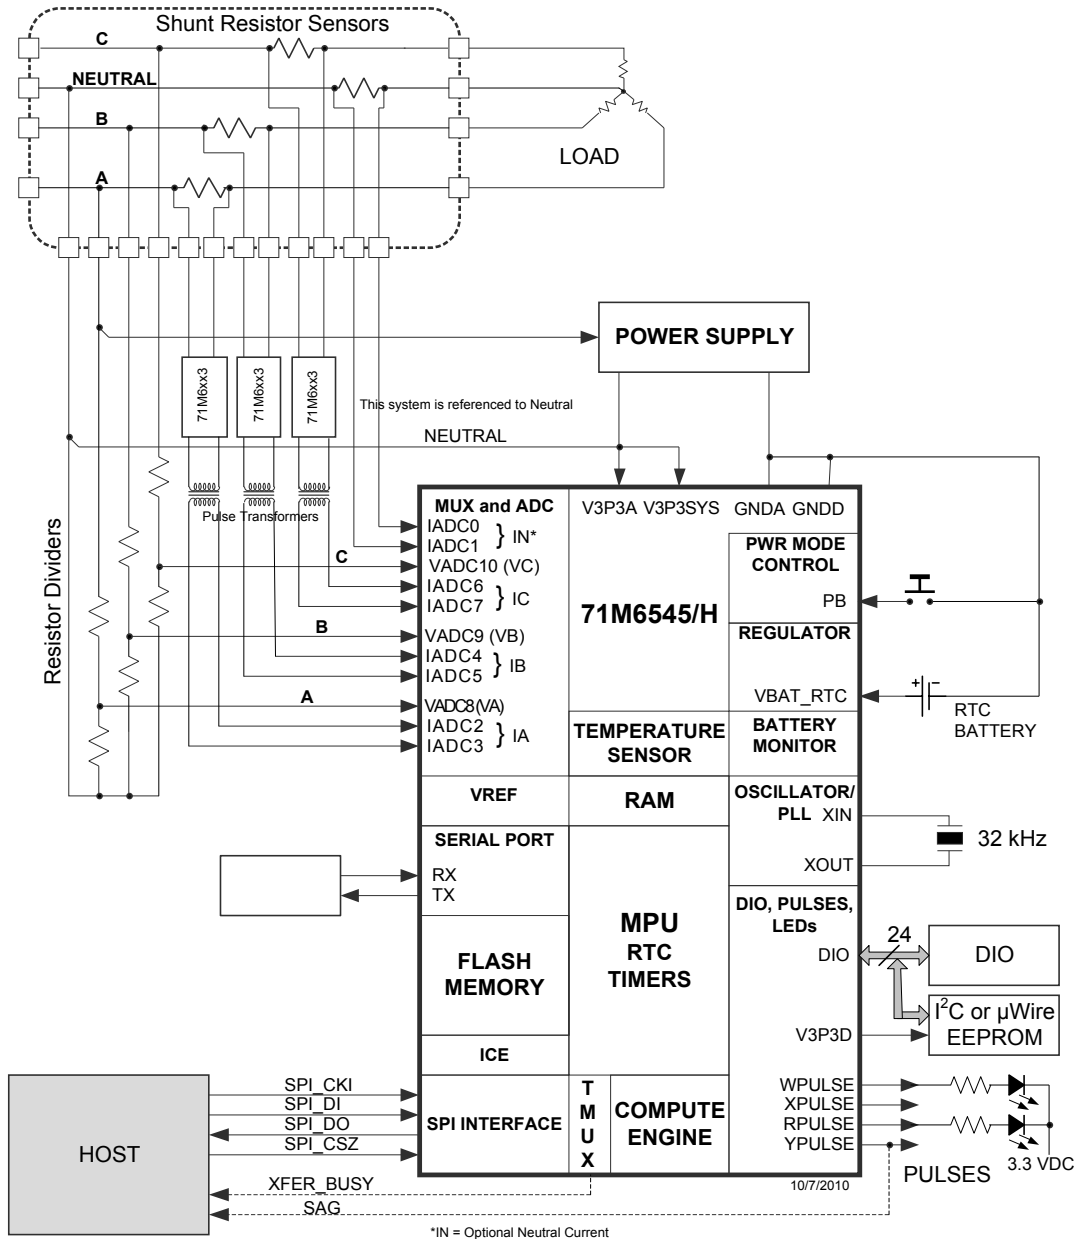

Figure 27: System Using Three-Remotes and One-Local (Neutral) Sensor
Figure 27 shows a typical connection for current shunt sensors; using the 71M6xx3 (poly-phase) isolated sensors. Note that one shunt current sensor is connected without isolation, which is the neutral current sensor in this example (connected to pins IADC0-IADC1). Each 71M6xx3 device is electrically isolated by a low-cost pulse transformer. The 71M6545/H current sensor inputs must be configured for remote sensor communications, as described in 2.2.8. Flexible remapping using the I/O RAM registers $MUXn_SEL[3:0]$ allows the sequence of analog input pins to be different from the standard configuration (a corresponding CE code must be used). See Figure 2 for the AFE configuration corresponding to Figure 27.
This section discusses metrology temperature compensation for the meter designs where current shunt sensors are used in conjunction with the 71M6xx3 remote isolated sensors, as shown in Figure 27.
Referring to Figure 27, the VADC8 (VA), VADC9 (VB) and VADC10 (VC) voltage sensors are always directly connected to the 71M6545/H. Thus, the precision of the voltage sensors is primarily affected by VREF in the 71M6545/H. The temperature coefficient of the resistors used to implement the voltage dividers
Table 57 shows the five $GAIN_ADJx$ equation output storage locations and the voltage or current sensor channels for which they compensate for the 1 Local / 3 Remote configuration shown in Figure 27.
Table 57: GAIN_ADJn Compensation Channels (Figure 2, Figure 27, Table 1)